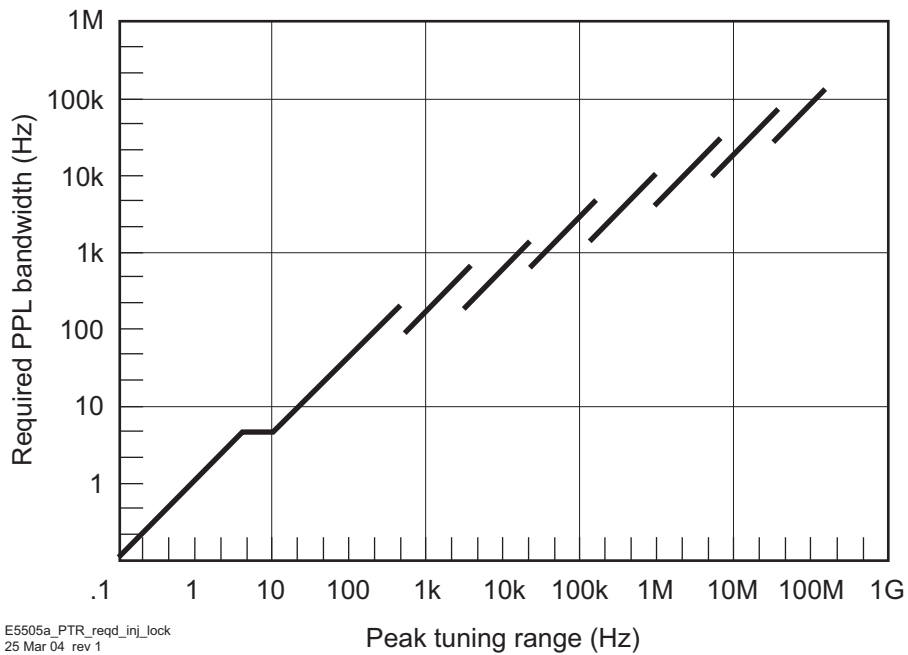

Figure 79 Peak tuning range (PTR) Required by injection locking.
The PTR for the measurement is set by the tuning characteristics of the VCO source you are using. Figure 79 on page 121 shows that increasing the PLL bandwidth can require a substantially larger increase in the PTR. For information on the limitations of increasing the PTR, refer to Changing the PTR in this section.
- 3 Locate the required PLL bandwidth in Figure 79 to determine the PTR required for the measurement. (For details on increasing the PTR, refer to Changing the PTR in this section.